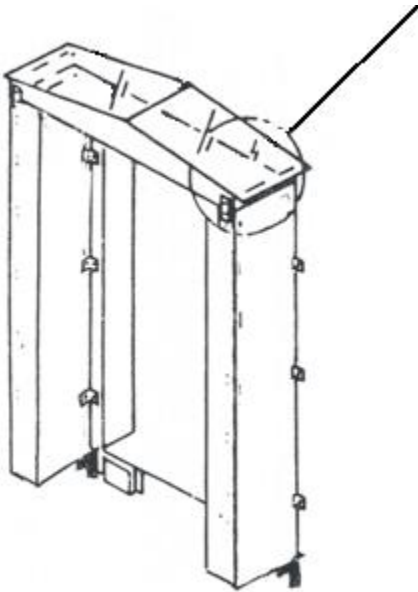

FIGURE 3 - MOUNTING HEADER TO VERTICAL PANELS
(5) LIFT HEAD FRAME AND REST ON TOP OF VERTICAL SIDES.
(6) ATTACH HEADER FRAME TO BUILDING BY BOLTING THROUGH BACK BOARD OF FRAME TO BUILDING (SEE FIGURE 3).